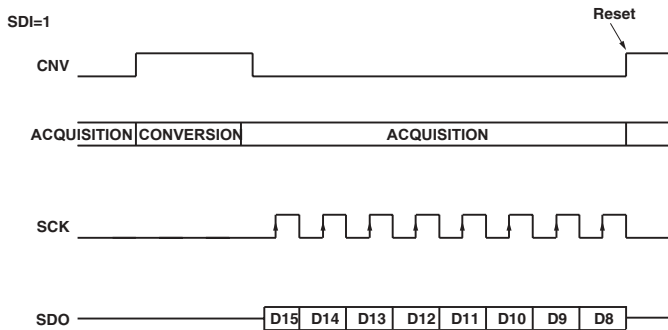
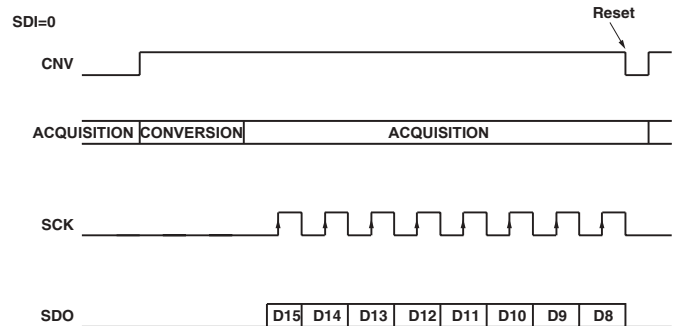
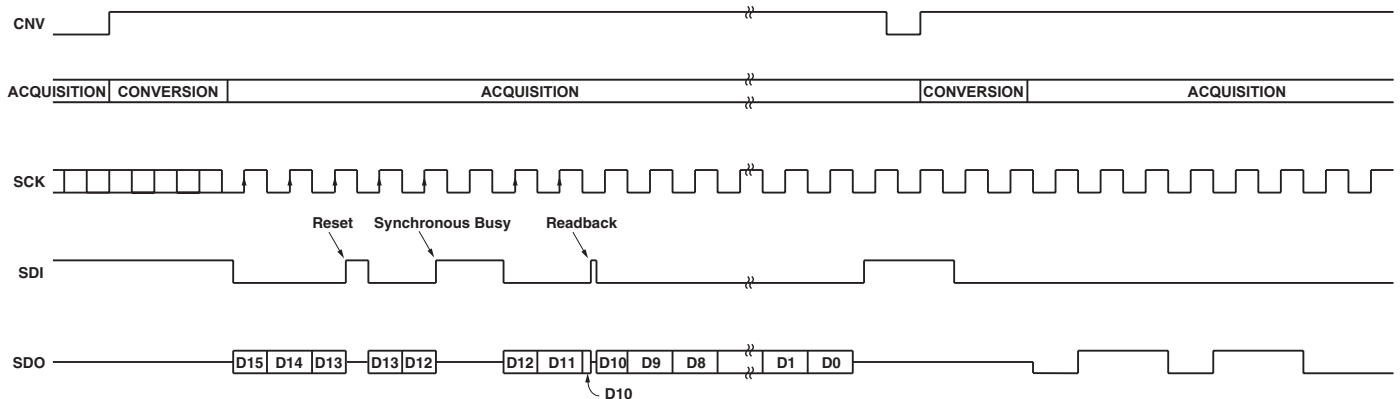

Figure 17. Example of programming configuration using CNV in \overline{CS} mode.
Figure 18. Example of programming configuration using SDI in Chain mode.
Figure 19. Example of programming configuration using SDI in \overline{CS} mode followed by a configuration readback.
- In \overline{CS} mode, when CNV is low and SDI is high (figure 17), or when SDI is low and CNV is high (figure 19). If CNV and SDI are both low, the previous SCK rising edges which occurred during the current part selection are ignored and the configuration is not changed when the part is deselected.
- In Chain mode, when CNV is high (figure 18).
- In \overline{CS} mode, when CNV goes high while SDI is high (figure 17), or when SDI goes high while CNV is high (figure 19).
- In Chain mode, when CNV goes low (figure 18).
In \overline{CS} mode using CNV to select the part (figure 17) or in Chain mode (figure 18), only one single change of the configuration can be done per conversion. However, a “Reset to default settings” command (3 or 8 SCK pulses) changes the configuration to a factory predefined configuration (warp mode, High bandwidth, asynchronous busy indicator and falling SCK driving edge). SPI compatible digital hosts offer the possibility to send 8 SCK pulses by software. A truncated valid ADC result is still available on the SDO output.
In \overline{CS} mode, using SDI to select the part, a complete new configuration could be selected during a single conversion as shown in figure 19. In this case, the selected feature depends on the total number of SCK rising edges seen since the end of conversion. The data on the SDO output is still the valid ADC result and the complete 16 bits result can be read. In the example shown figure 19, the selected configuration is high bandwidth, synchronous busy indicator, falling SCK driving edge, warp mode and the configuration will be readback after the subsequent conversion.
When the readback command is selected, the configuration will be output on the SDO pin in place of the ADC result during the data read of the following conversion as shown in figure 19.